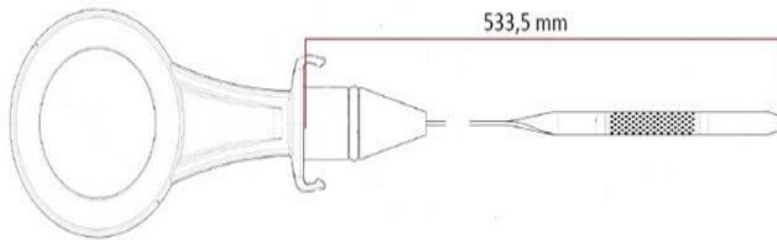

Figure 1. Length of oil dipstick.
- Measure the length of the oil dipstick using suitable tools. The oil dipstick must be 533.5 mm long (Figure 1):